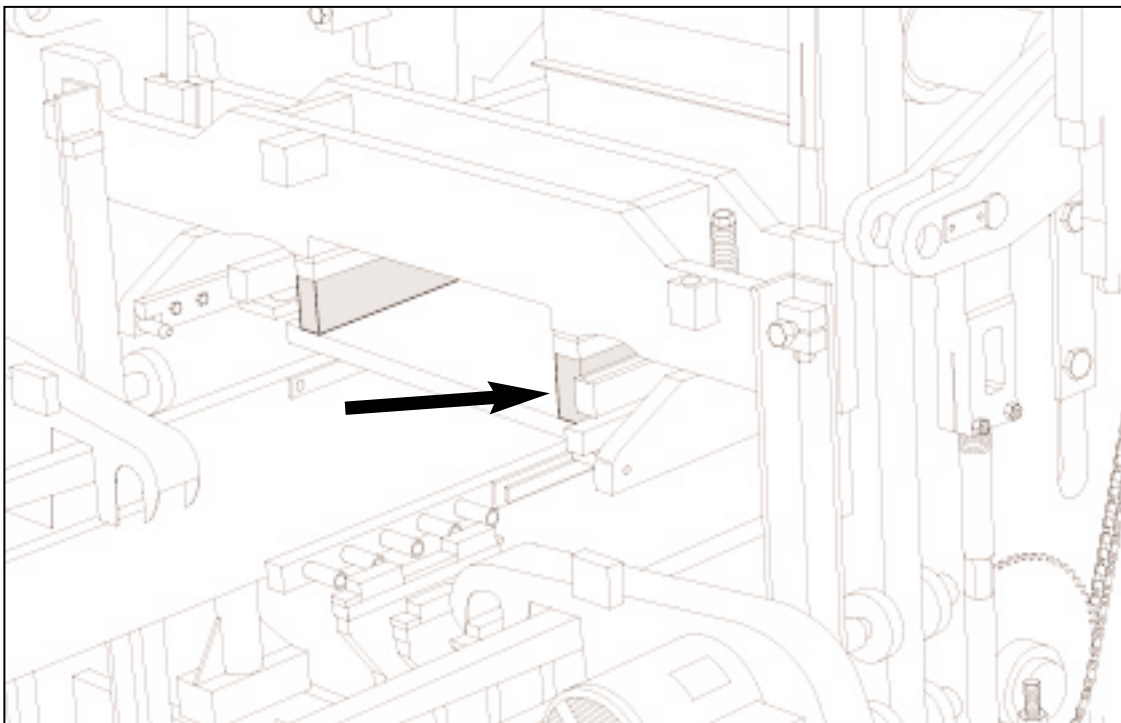

Figure 4.32 2 1/8" [54mm] BLOCKING UNDER STRIPPER HEAD FRAME.
4.2.9 The SUPERPAC is now ready for the installation of the mold assembly. Follow the directions for installing an attachment in section 5 of this manual. When installing the stripper head, insert **2 1/8" [54mm]** of blocking in addition to the **1 1/2" [38 mm]** blocks already affixed to the stripper head frame (figure 4.32). The above blocking assumes a stripper head height of **14 3/16" [360mm]** from the top of the head plate to the bottom of the shoes.